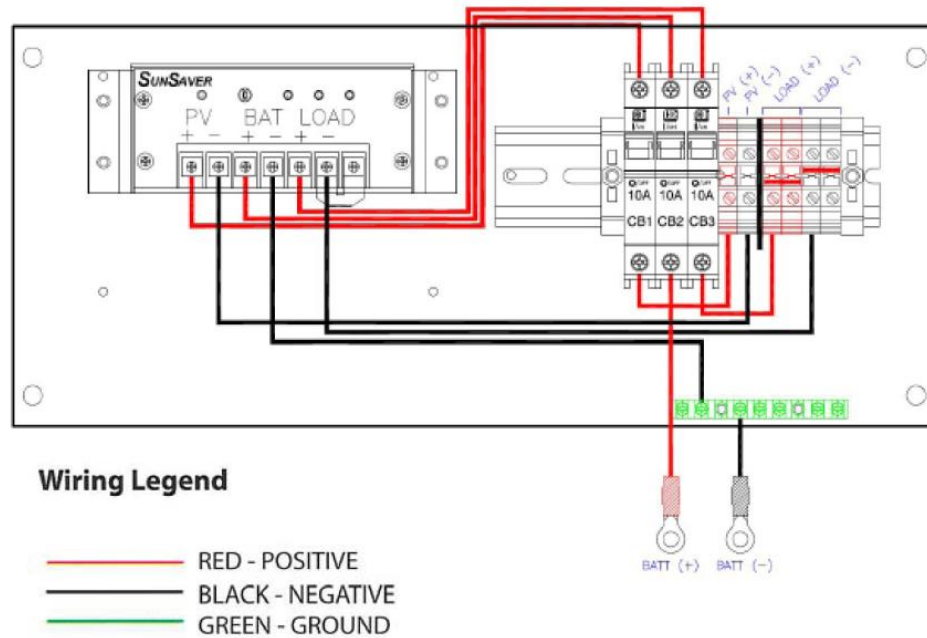

Figure 63 Solar panel battery box wiring
1. Run a power wire into load + and load - in the solar panel battery box (noting polarity) as per Figure 63.